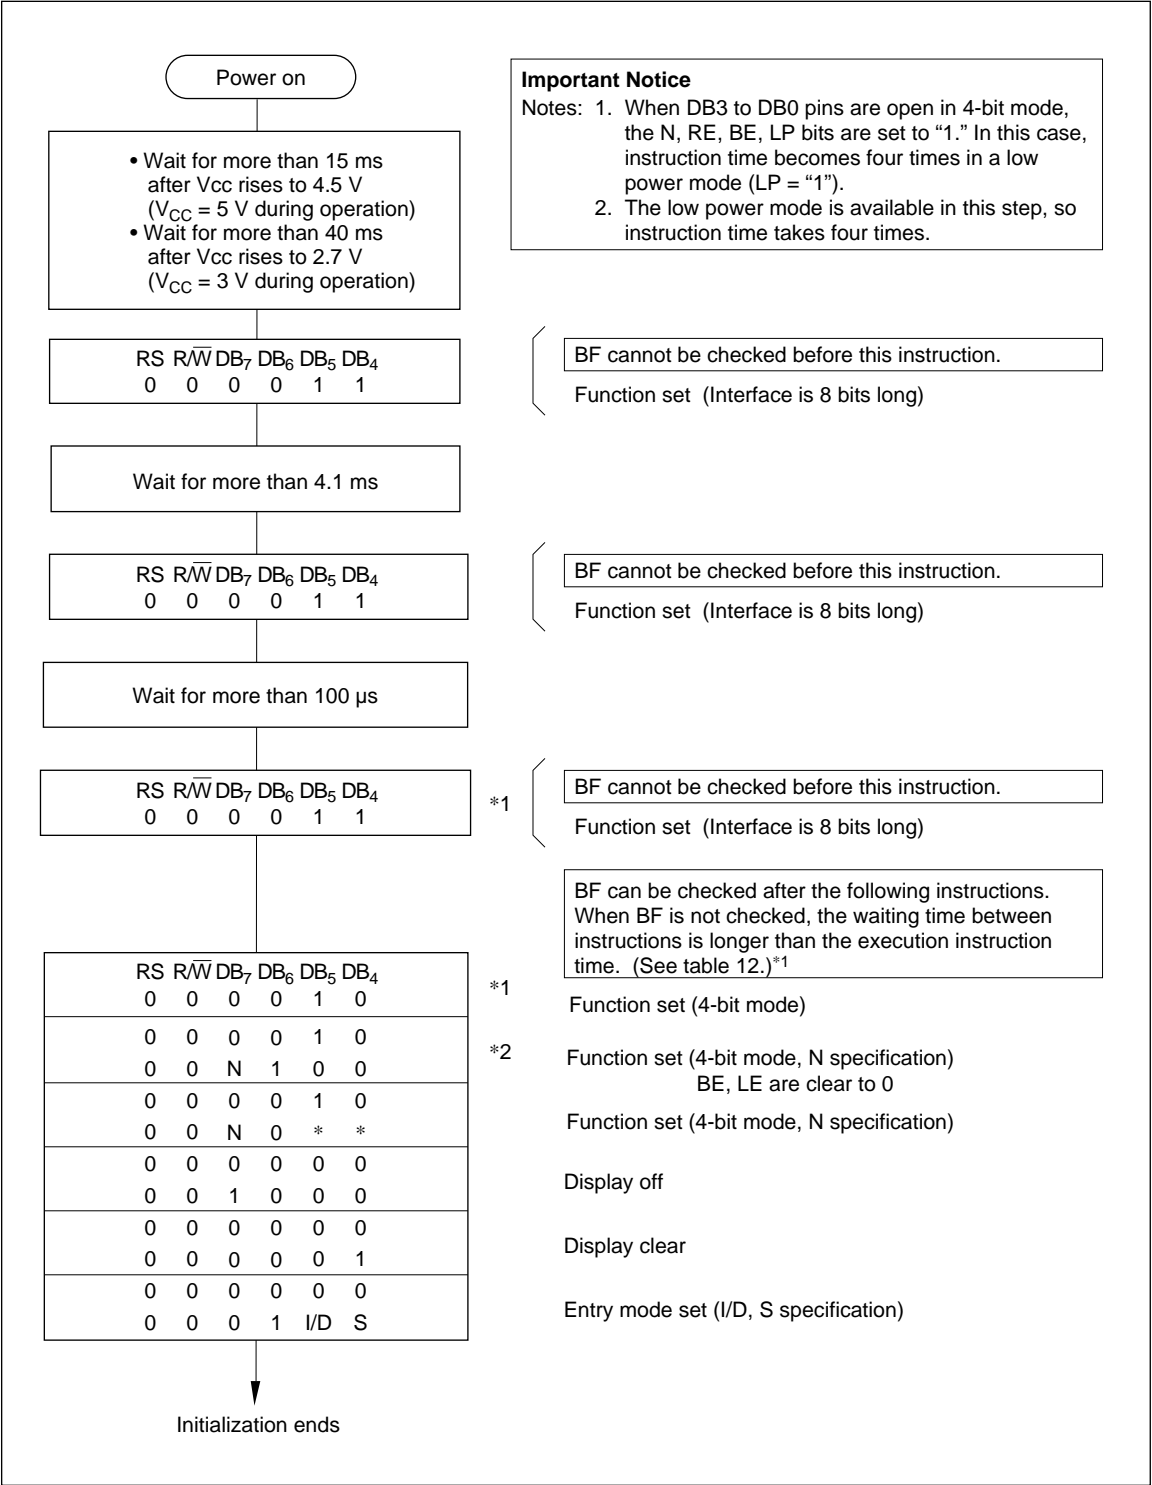

Figure 32 Initializing Flow of 4-Bit Interface
- Initializing when a length of interface is 4-bit system. (See figure 32.)